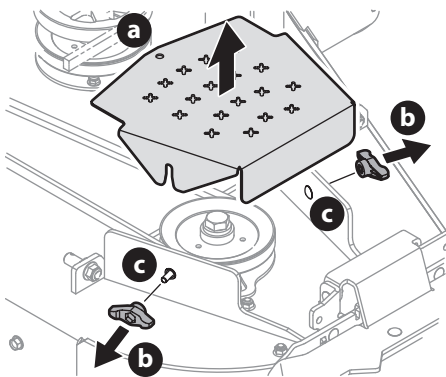

Fig. 53
3. To remove the belt covers (a), remove the wing knobs (b) from the carriage screws (c) securing it to the deck (Fig. 53).
4. The speed nut should hold the carriage screw (c) and tab bolt in place, if not re-install (Fig. 53).